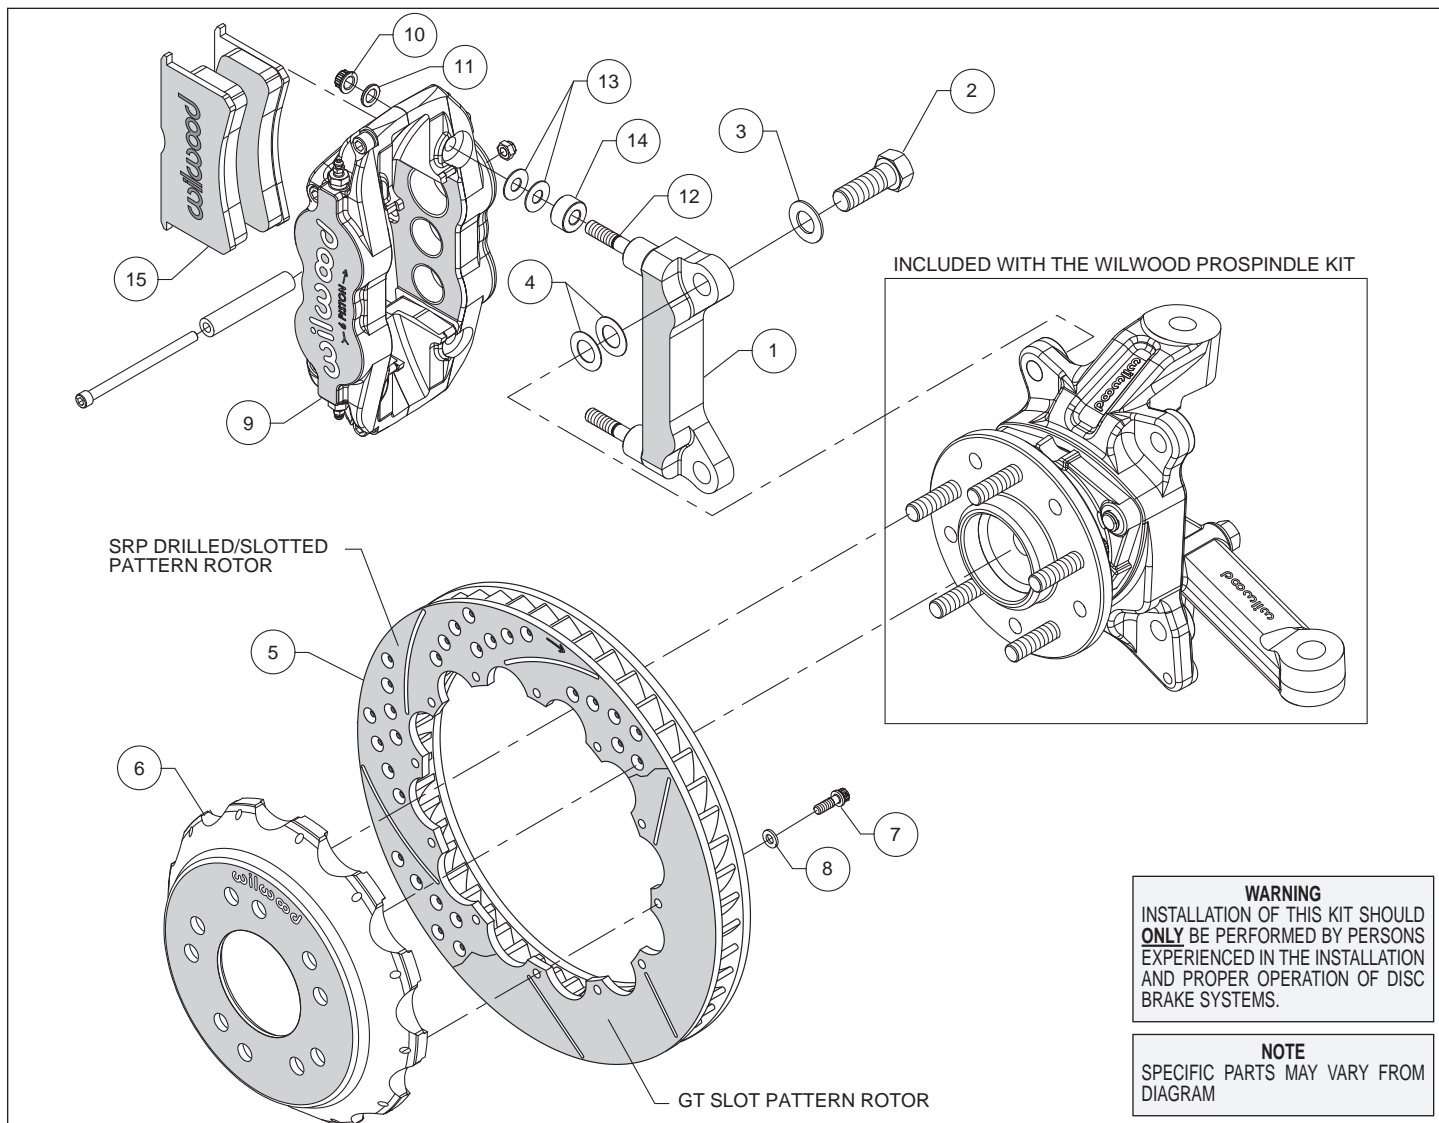
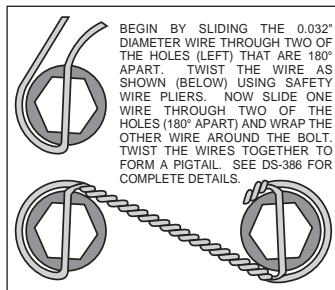

Figure 1. Typical Installation Configuration
Figure 3. Safety Wire Diagram
Assembly Instructions (numbers in parenthesis refer to the parts list and Figure 1 on the preceding pages):
• The caliper mount bracket (1) should initially be installed with clean, dry threads on the mounting bolts. Orient the bracket as shown in Figure 1 and Photo 1 and install using mount bolts (2) and washers (3). Initially place two .024" thick shims (4) on each bolt between the bracket and spindle, Figure 1. Temporarily tighten the mounting bolts. **NOTE:** The bracket must fit squarely against the mounting points on the spindle. Inspect for interference from casting irregularities, machining ridges, burrs, etc. Later, after the caliper alignment has been checked, the mount bolts will be secured using red Loctite® 271.
- Orient the rotor (5) and the hat (6) as shown in Figure 1 and Photo 2. Attach rotor to hat using bolts (7) and washers (8). Using an alternating sequence, apply red *Loctite*® 271 to the threads, and torque to 155 **in-lbs**. For an added measure of security, the bolts may be safety wired using standard 0.032 inch diameter stainless steel safety wire as shown in Figure 3. Please refer to Wilwood's data sheet DS-386 (available at www.wilwood.com/Pdf/DataSheets/ds386.pdf) for complete safety wire installation instructions.
- **NOTE:** *This kit contains distinct right and left hand calipers that must be mounted in a specific direction, as described below.* Lubricate the caliper mounting studs (12) with lightweight oil. Initially place two .035" thick shims (13) and one spacer (14) on each stud between the caliper and the bracket, as shown in Figure 1 and Photo 5. Mount the caliper (9) onto the bracket (1) using lock nuts (10) and washers (11), Figure 1. Ensure that the caliper is mounted so the largest pistons are at the rotor exit end of the caliper, in relation to the direction of rotor rotation. Temporarily tighten the lock nuts and view the rotor through the top opening of the caliper. The rotor should be centered in the caliper, Photo 6. If not, adjust by adding or subtracting shims (4) between the bracket and the spindle. Always use the same amount of shims on each of the two mounting bolts. Once the caliper alignment is correct, remove the bracket mounting bolts one at a time, apply red *Loctite*® 271 to the threads, and torque to 140 ft-lb.